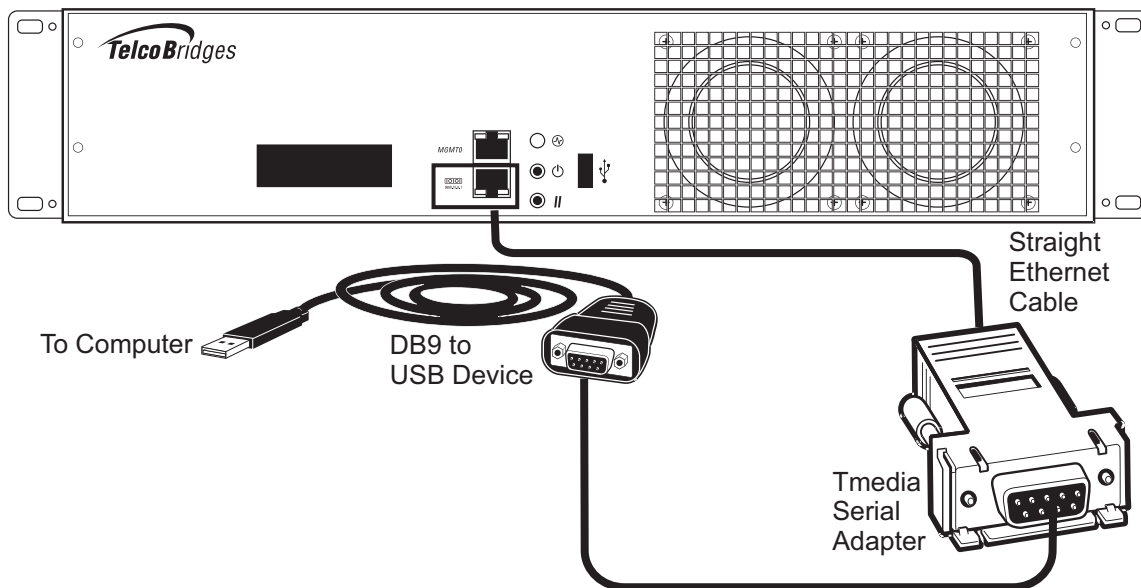

Figure 3.2 Conceptual View of a Serial Connection from the 3200 Series Gateway to a Computer
2. If your computer's serial port features a DB9 connector, use the Tmedia serial adapter supplied with your 3200 series gateway. If your computer's serial port features a USB connector, you will need to provide a USB to DB9 adapter. Refer to Figure 3.2 on page 58.